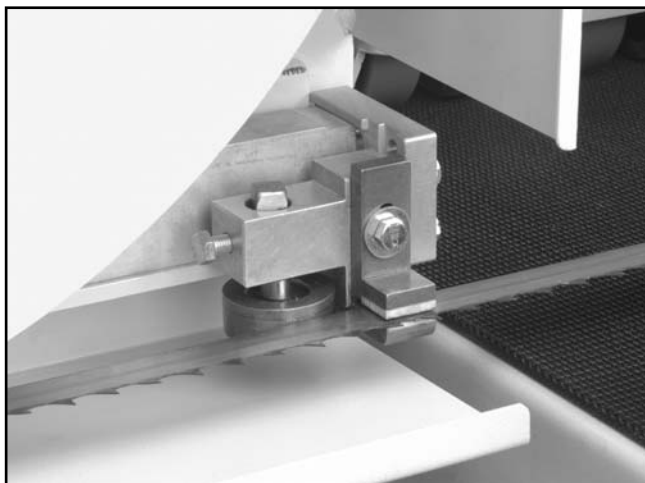

Figure 14. Blade positioned between blade guides.
4. Carefully fit the blade over each wheel, and position it between the blade guides as shown in **Figure 14**. Make sure the teeth point toward the right-hand side of the machine, as you are facing the front.